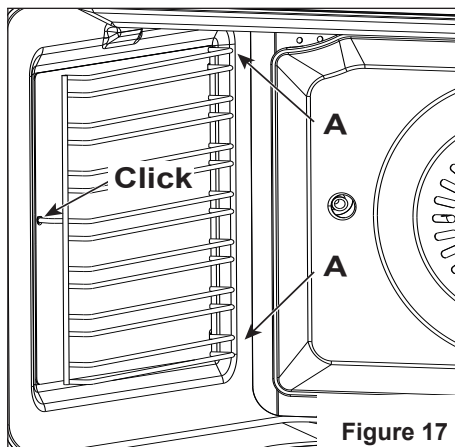

Figure 17
- Slide the rear prongs of the side rack into the holes "A" at the rear of the oven (fig. 17).
- Slide the front prong of the side rack into the holes at the front of the oven (fig. 17).